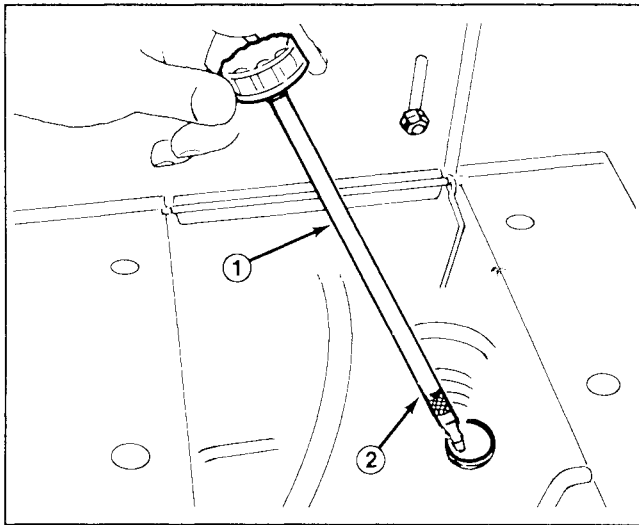

Figure 4
3. Remove dipstick from fill tube (Fig. 4).
5. Slowly pour oil into crankcase (Fig. 4). The engine uses any high quality detergent oil having the American Petroleum Institute — API — “service classification” SF or SG. Oil viscosity — weight — must be selected according to anticipated ambient temperature.
6. Rock the rider gently to release any air that may be trapped in crankcase. Screw dipstick fully into fill tube; then remove it and make sure that oil level is up to FULL mark on dipstick (Fig. 4). If level is low, add only enough oil to bring level up to FULL mark.